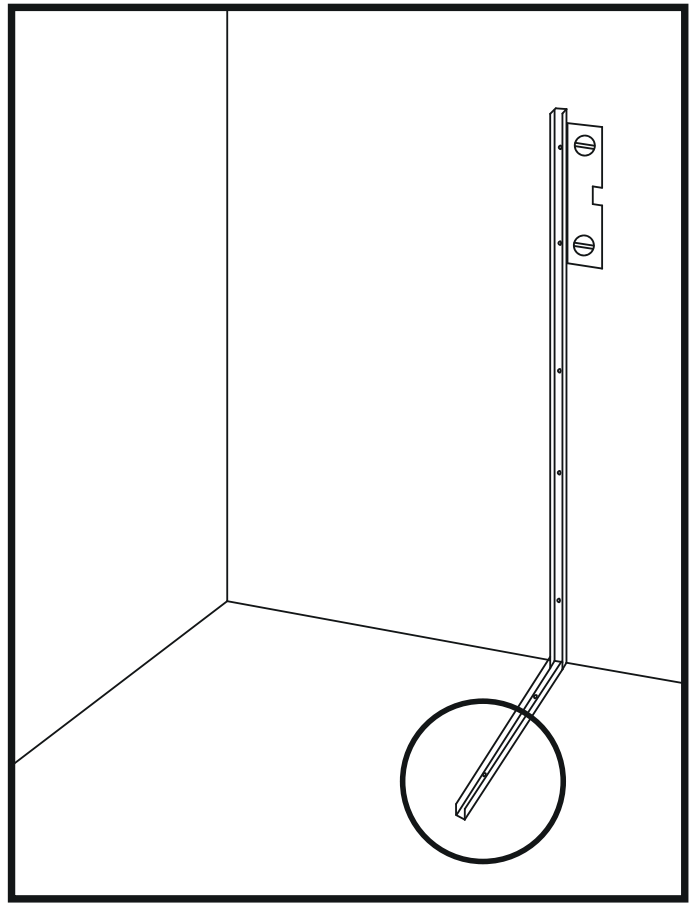

Figure 4
8. Place the shorter U-profile on the floor, with the end against the U-profile on the wall and parallel to the opposite wall. (Figure 4)